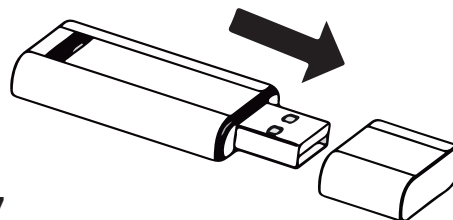

Fig. 7.7
1. Remove the protective cap of the wireless module (refer to **Fig 7.7** below).